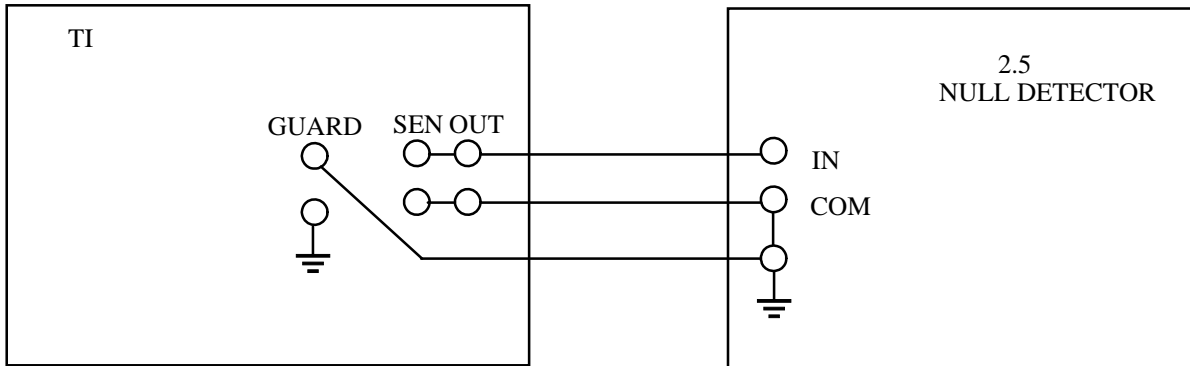

Figure A-2. Zero Output Adjust Configuration
A.2.1 Set the Null Detector (item 2.5) OPR-ZERO switch to ZERO. Perform the mechanical or electrical zero adjustments for the Null Detector as required. Electrically zero adjust the Null Detector up to its 3 μV position.
A.2.2 Set the TI output-voltage dials to indicate all zeroes, connect the equipment as shown in Figure A-2; and set the TI power switch to OPR.